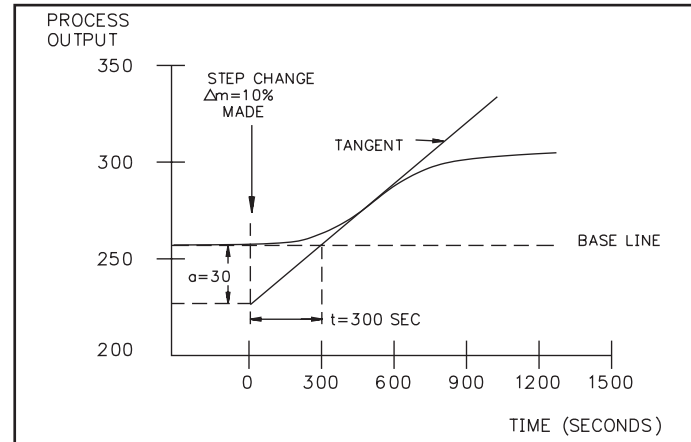

Figure 41, Process Reaction Curve
- 5) Record the response of the process. Use the information from the table to calculate the controller tuning values. The PID tuning parameters are determined graphically from Figure 41, Process Reaction Curve. Draw a vertical line at the moment the step change was made. Draw a line (labeled tangent) through the process reaction curve at its maximum upward slope. Extend this line to intersect the vertical line. The time from the step change to this intersection is the process time constant, t . The slope of the tangent line is the process gain, a .